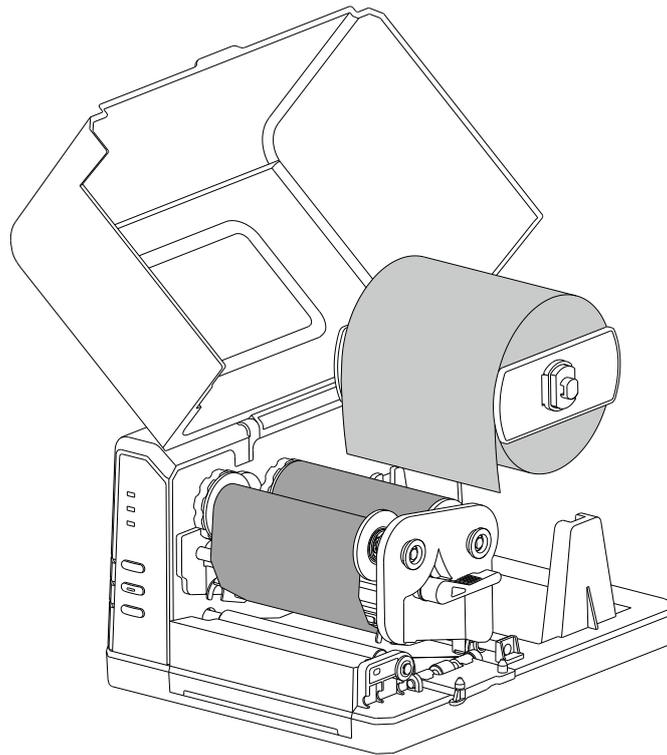

Figure 2-10 Load the Media
3. Position the media roll in the middle of the Spindle, using the ruler on the Media Spindle for alignment. See Figure 2-10.